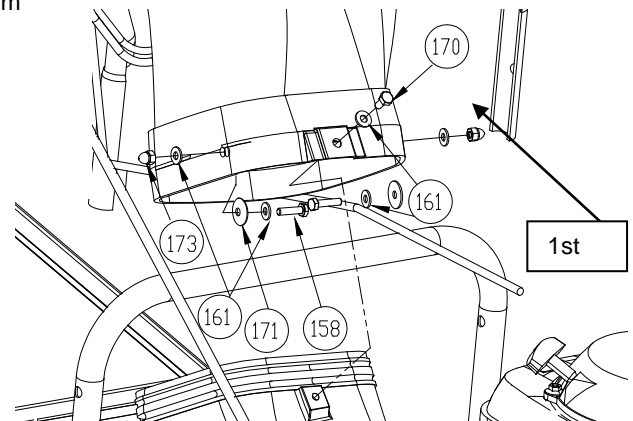

Fig. 2
2. Install (item 170) center bolt first when aligned with a nut on the housing. (See Fig. 2)
3. Attach rest of hood assembly to the housing using corresponding hardware. *NOTE:* You will have to insert the bolt/washer from the inside by reaching through the hood. (See Fig. 2)